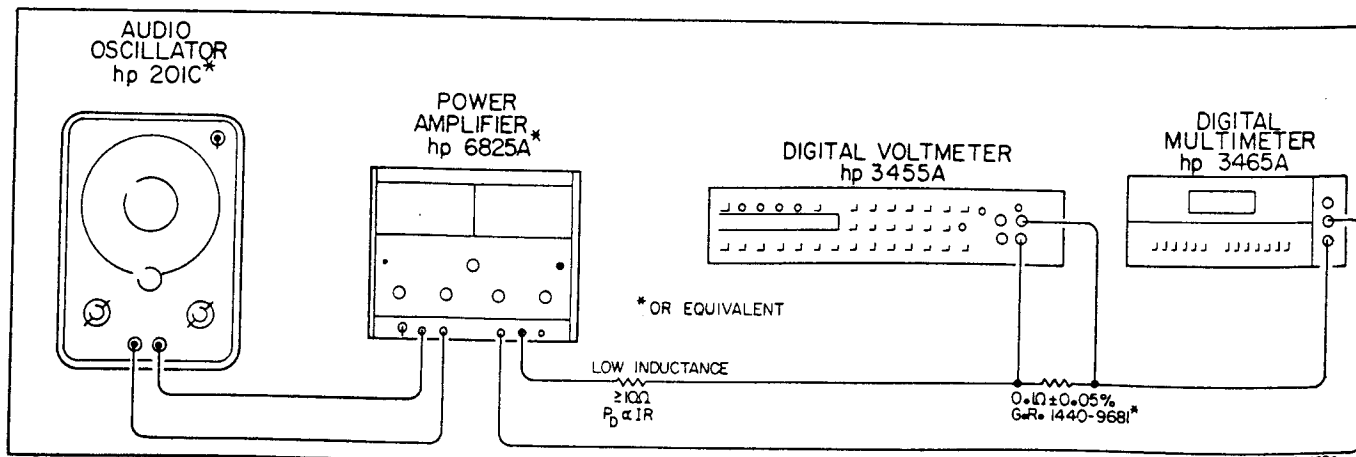

Figure 5-4. AC Ammeter Accuracy Test 200 mA and 2000 mA.
- Connect the equipment as shown in Figure 5-4.
- Connect the test equipment as shown in Figure 5-4. Do not connect the Multimeter at this time.